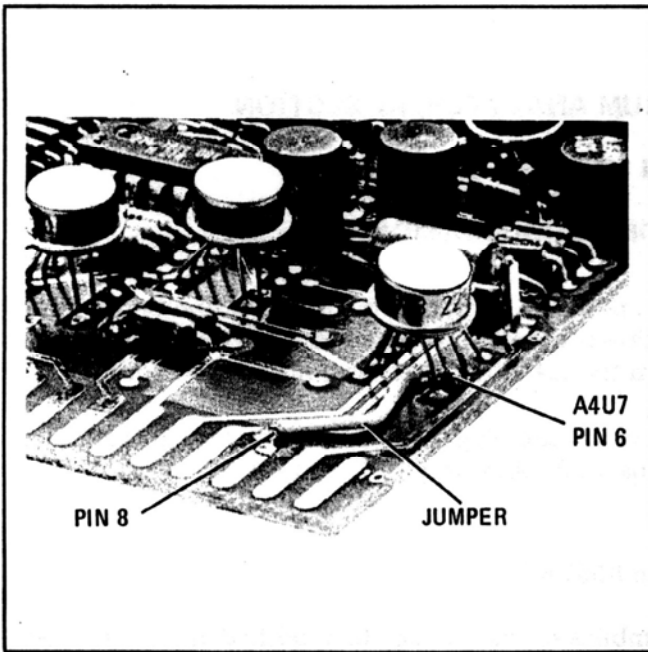

Figure 7-21. Modified A4 Board
3. Connect an insulated 3 inch jumper wire between A4U7 pin 6 and pin 8 on the A4 board connector. Refer to Figure 7-21.